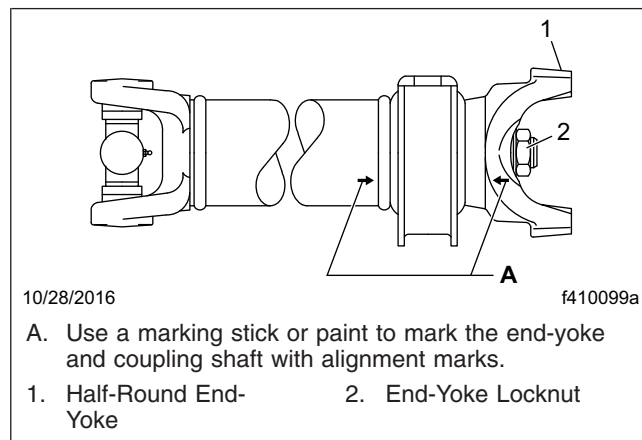

Fig. 4, Alignment Marks on a Coupling Shaft With an End-Yoke
- 4.1 Use a marking stick or paint to mark the end-yoke and coupling shaft with alignment marks. See Fig. 4.